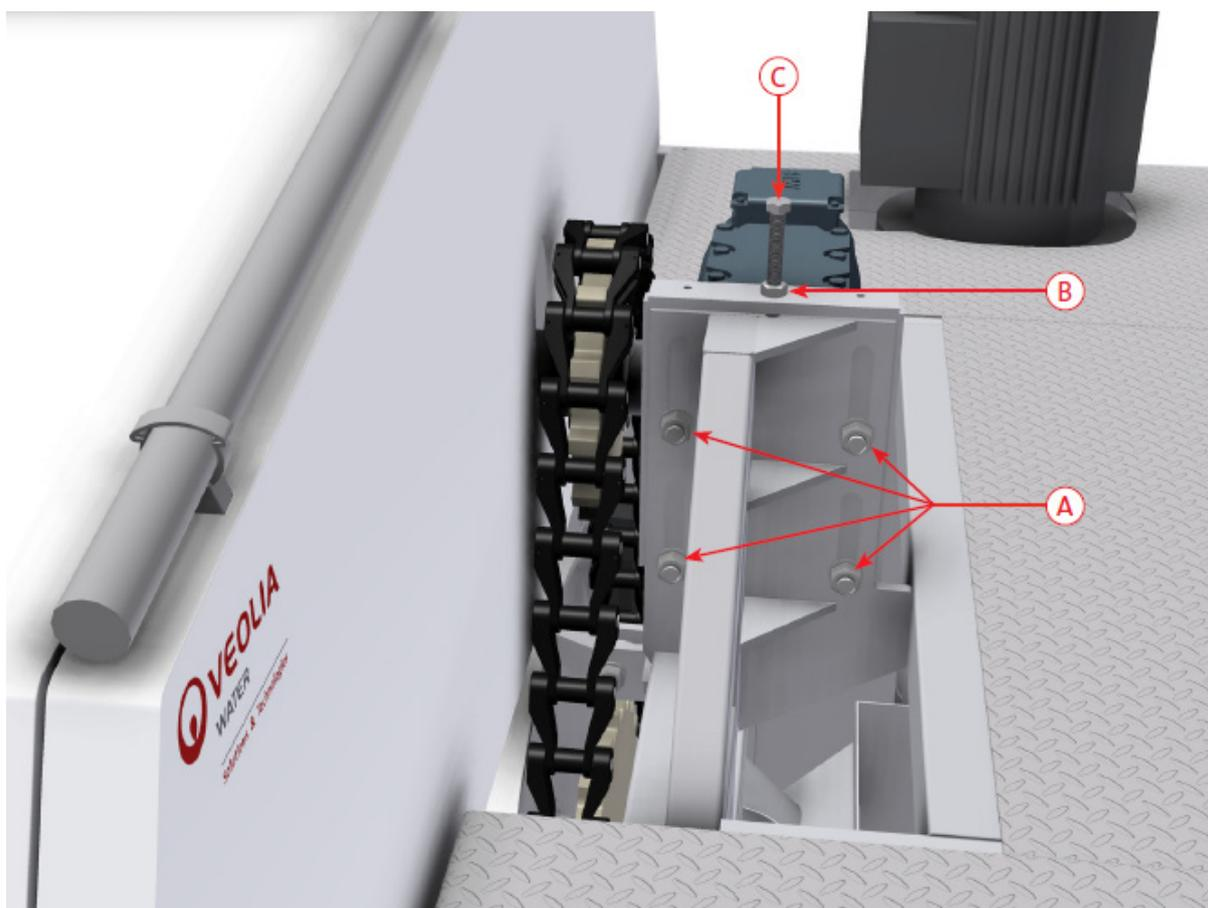

Figure 7.22 Adjusting drive chain tension.
1. Turn the main power switch to the OFF (0) position and lock with a padlock.
2. Loosen the four nuts (A) (see Figure 7.22).
3. Loosen the nut (B).
4. Adjust the tension of the chain using the screw (C).
5. Secure the screw (C) using the nut (B).
6. Tighten the four nuts (A).